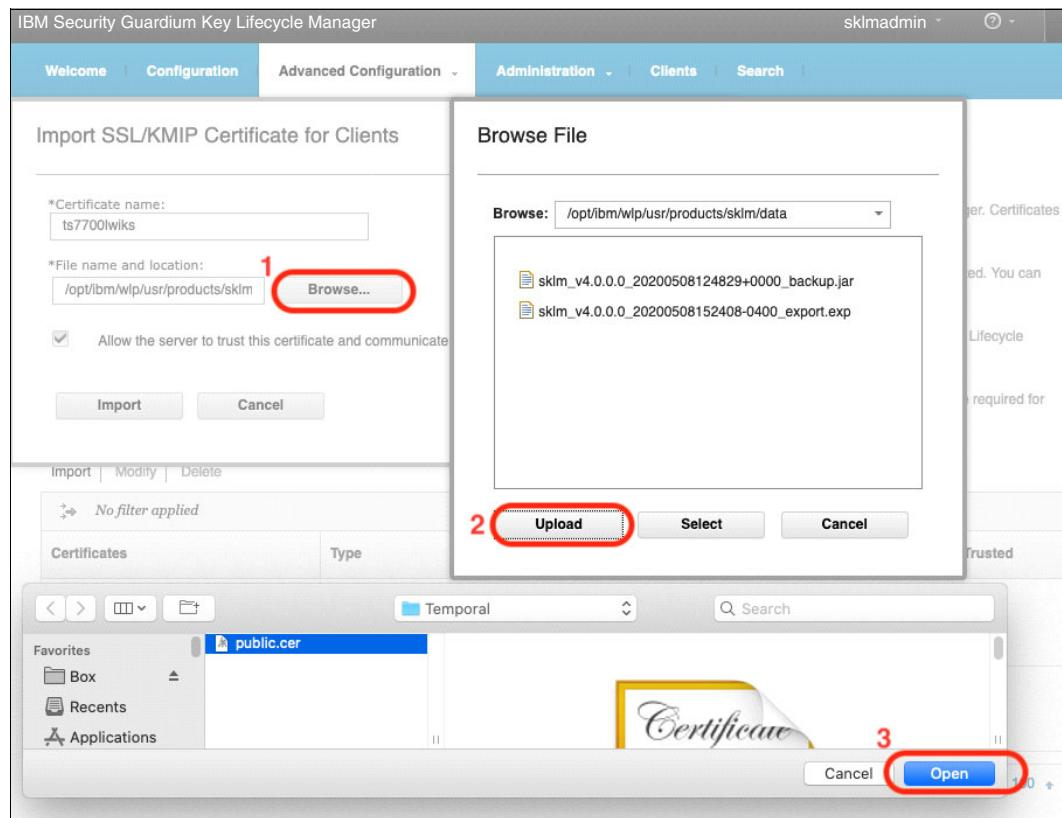

Figure J-13 Uploading TS7700 into the IBM Security Guardium Key Lifecycle Manager
2. The Import SSL/KMIP Certificate for Clients opens (see Figure J-13 on page 1055). Complete the following steps: